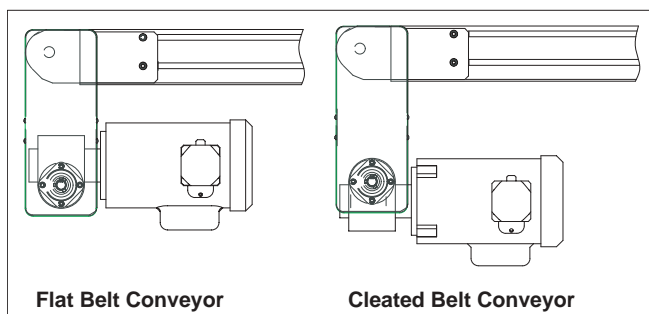

Figure 26
*Gearmotor position on Flat Belt conveyor shown below left, **Figure 26**. Gearmotor position on Cleated Belt conveyor shown below right, **Figure 26**.*